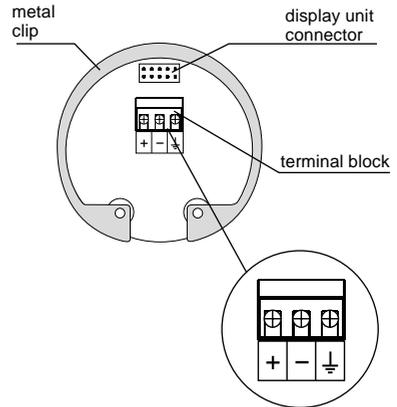

Fig. 14: Inside view of screw terminals of the level meter with current output CPC-AR-70 _ _ _ - I
5. Connect the cable to the screw terminals according to the diagram in Fig. 14. Firmly tighten the terminals and the cable outlet.